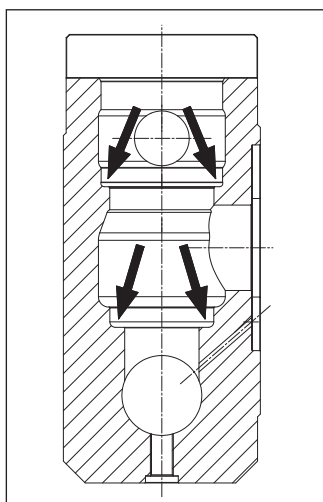

Fig. 175
**Before repositioning the valve inserts, thoroughly clean and dry the relative housings in the manifold as indicated by the arrows (Fig. 175).**